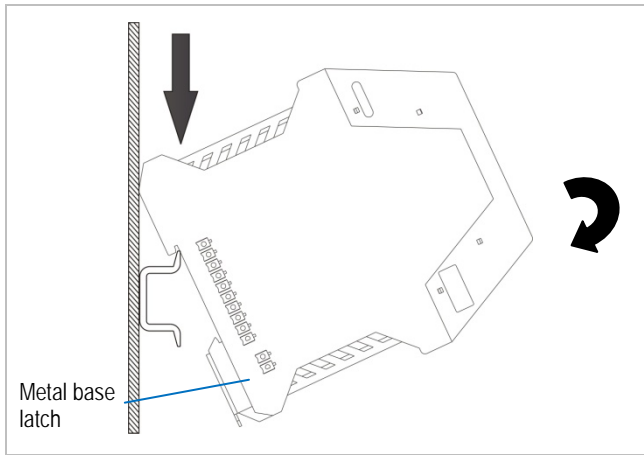

Figure 7: Latching the extension module onto a mounting rail
Operating position Base latch below (see figure 7)
- Place the extension module on the mounting rail with a side spacing of approximately 10 mm from the neighbouring module as shown in Fig. 7 (position the top retaining groove and latch onto the mounting rail with the aid of the metal base latch). Then align side-by-side and almost seamlessly in a row with the neighbouring Remote I/O module(s).